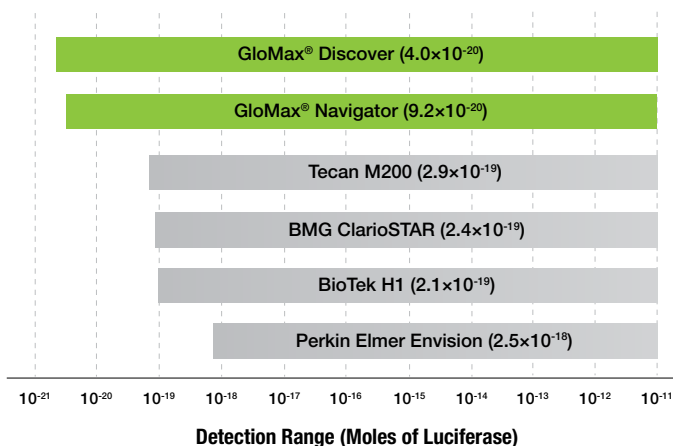

Figure 2. The detection range of various luminometers.
- Reagents are compatible with all plate-reading luminometers. Relative Light Unit (RLU) readings will vary with the sensitivity and settings of each instrument. The use of different instruments will affect the magnitude of RLUs and might affect the assay window for test samples. Figure 2 lists the sensitivity and dynamic range of some common commercial luminometers.